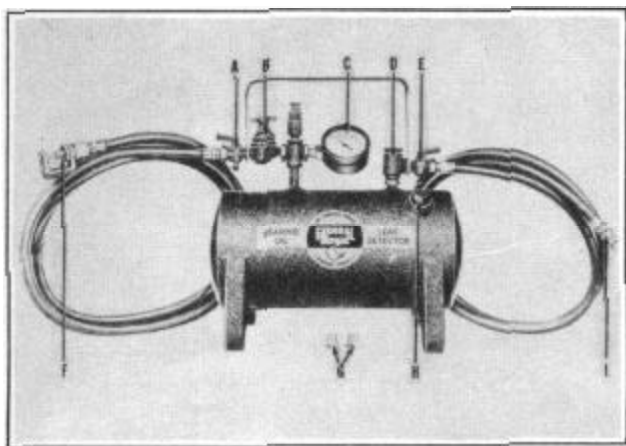

FIGURE 3
1. Remove the filler plug (H) Figure 3, and fill the tank with 5 quarts of S.A.E. No. 30 oil.